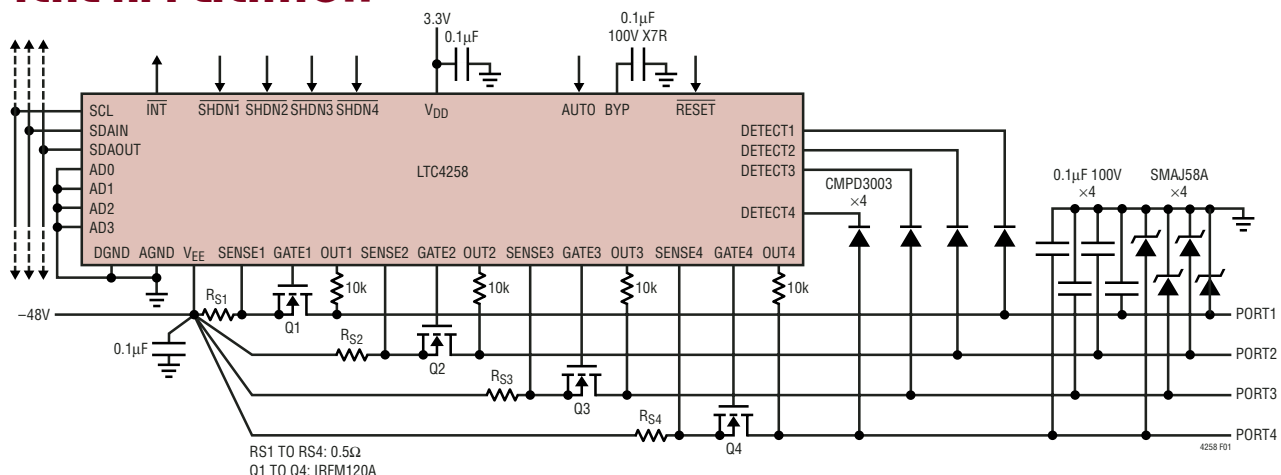

Figure 1. Complete 4-Port Powered Ethernet Power Source
The LTC®4258 is a quad –48V Hot Swap™ controller designed for use in IEEE 802.3af compliant Power Sourcing Equipment (PSE). It consists of four independent ports, each with output current limit, short-circuit protection, complete Powered Device (PD) detection and classification capability, and programmable PD disconnect using DC sensing. Used with power MOSFETs and passives as in Figure 1, the LTC4258 can implement a complete IEEE 802.3af-compliant PSE.